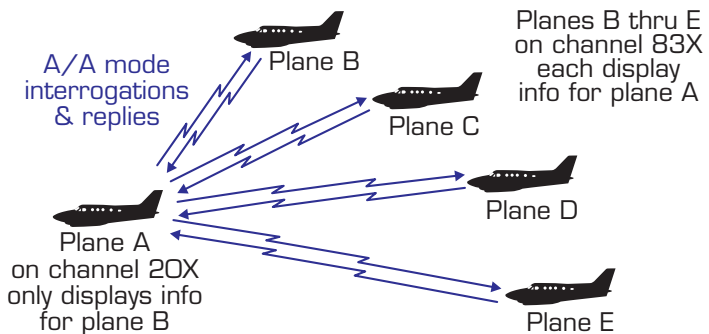

Figure 3-3. A/A Mode With Five Aircraft
If there are more than two aircraft in the area in A/A mode and set to the right channels, the AN/ARN-154(V) only calculates and displays the distance, time to rendezvous, and closure rate for the closest aircraft (figure 3-3).